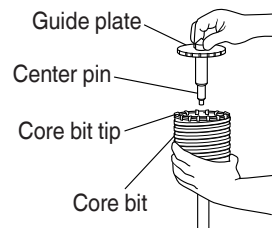

Fig. 20
- (3) Insert the center pin into the guide plate until it stops.
- (4) Engage the guide plate with the core bit, and turn the guide plate to left or right so that it does not fall even if it faces downward. (Fig. 20)